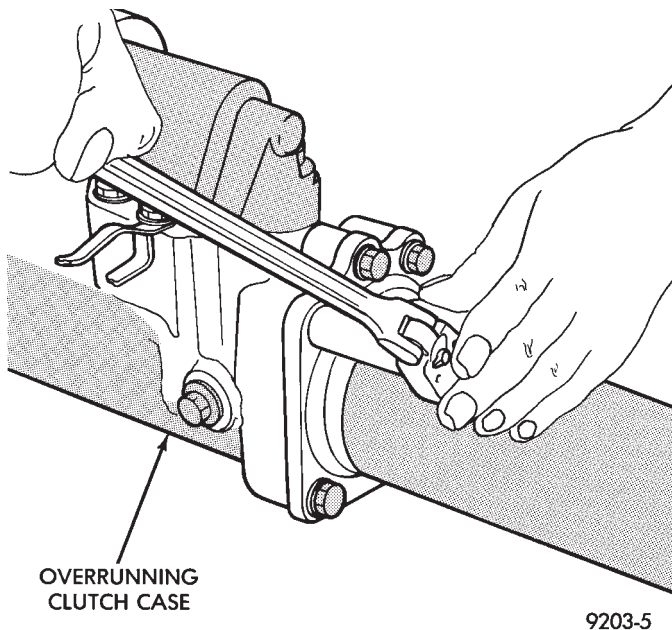

Fig. 2 Torque Tube Bolts
- (4) Remove torque tube to overrunning clutch case bolts (Fig 2).